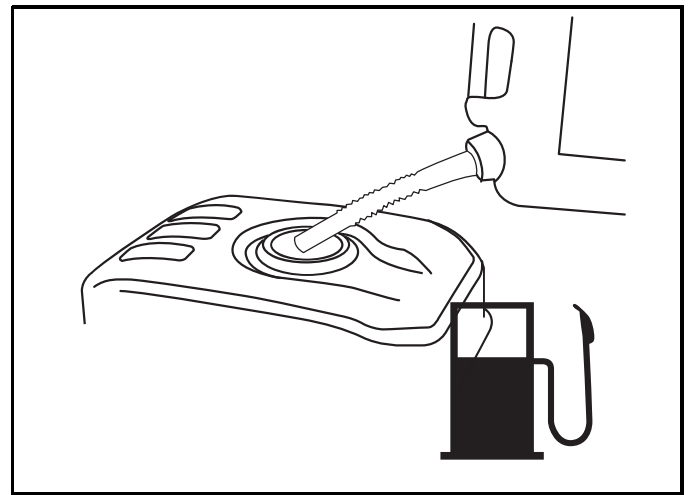

Figure 4-10. Adding Fuel
- Turn power washer OFF and let it cool at least two (2) minutes before removing fuel cap. Loosen cap slowly to relieve pressure in tank.
2. Slowly add regular unleaded fuel to fuel tank. Be careful not to overfill. Fill to bottom of filter screen, this will allow for fuel expansion (Figure 4-10).